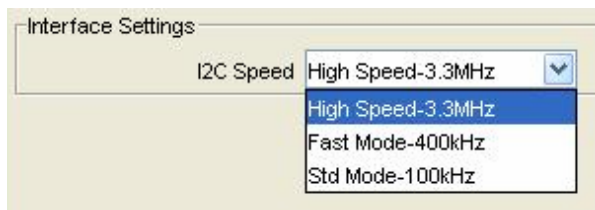

Figure 7: I²C Speed Select
6. Configure the I²C Interface speed as seen in *Figure 7*. Standard mode, Fast Mode, and High Speed mode are supported.